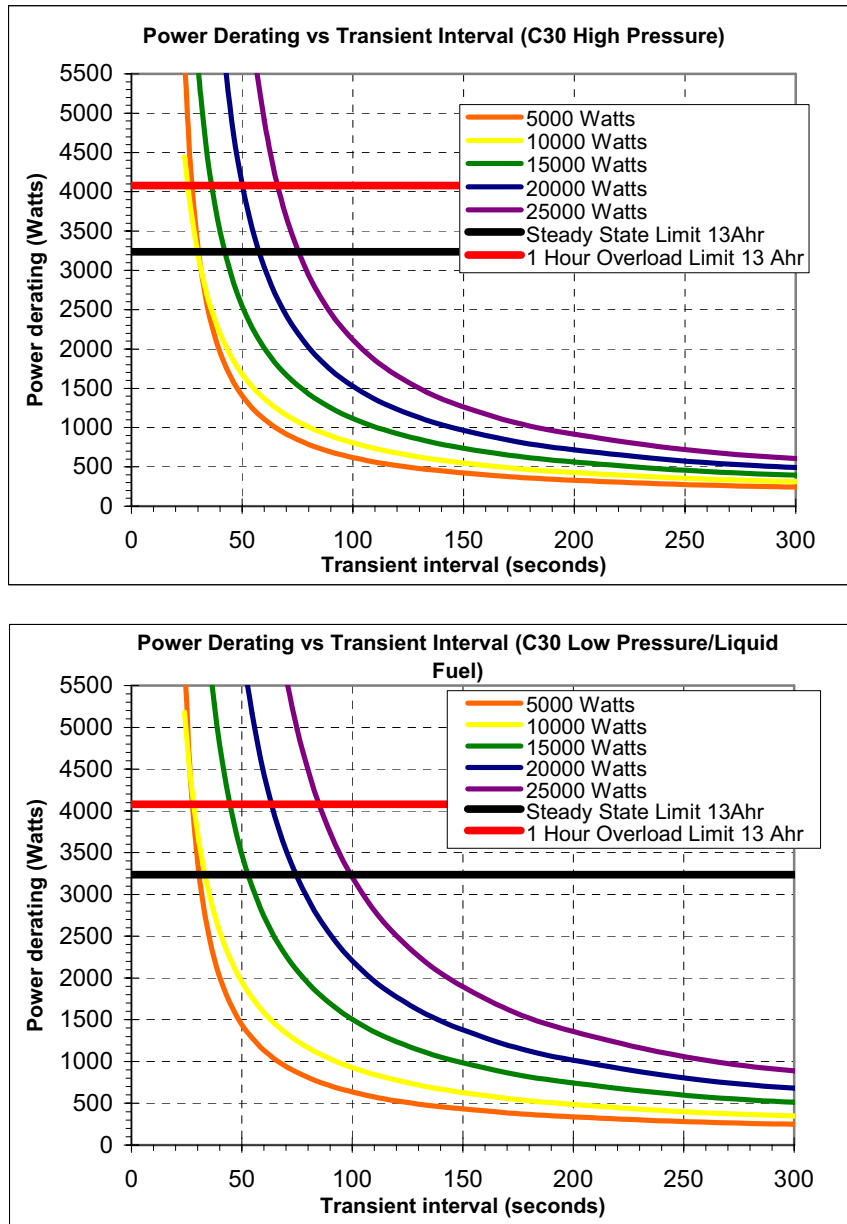

Figure 8. Power Derating of Model C30 Systems
Two examples are provided below to demonstrate calculations for electrical power derating. See Figures 8 and 9 for power derating curves.
- # From the Figure 8, find 40 seconds on the x-axis and point to where it intersects the 5000W line. Read the derating data directly from the y-axis. The power derating is 2000 Watts.